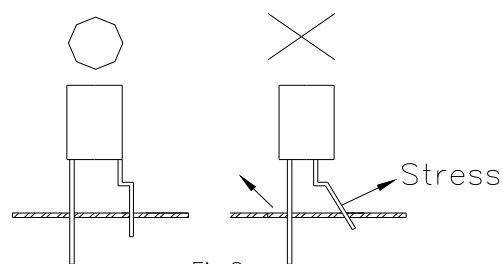

Fig.8
- ② Forming lead should be carried out prior to soldering and never during or after soldering.
- ③ Form the lead to ensure alignment between the leads and the hole on board, so that stress against the LED is prevented. (Fig.8)